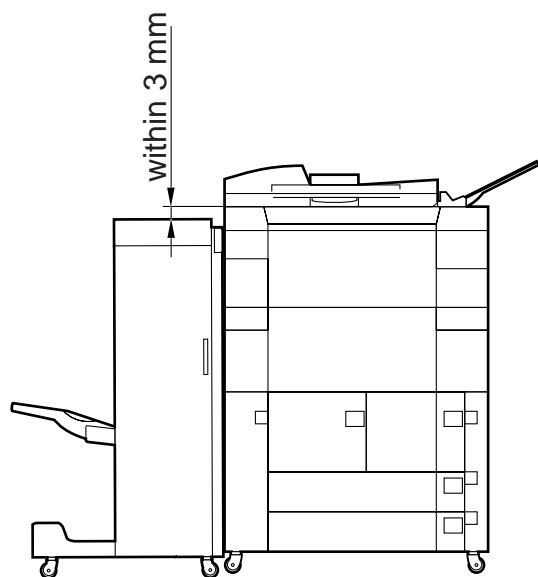

Figure 3-112
- 1) Compare the top of the upper cover of the machine and the top of the upper cover of the copier. If the difference in height is not as indicated in Figures 3-112 and -113, make adjustments. (Also, if jams occur frequently at the inlet to the finisher, make a check to see if the height is the cause.)